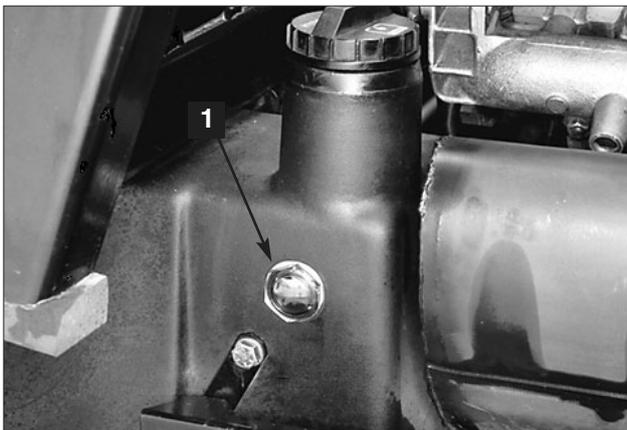

Figure 48
5. With the wing decks raised, the center of the deck down and the oil warm, look into the sight gauge (Fig. 48). If hydraulic oil is not visible, add enough oil to raise the level to the middle (maximum) of the sight gauge. To prevent over filling, do not fill if oil is cold. **DO NOT OVER FILL.**